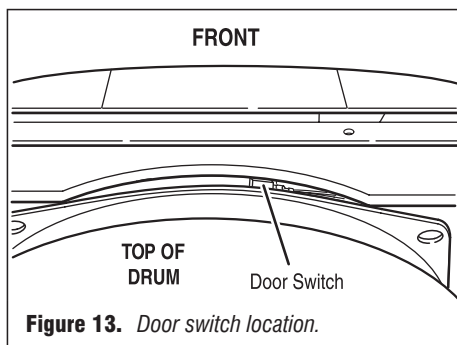

Figure 13. Door switch location.
2. Check that the wires between the door switch and machine control electronics are connected. See figure 13 for switch location, and see Accessing & Removing the Electronic Assemblies, at right.